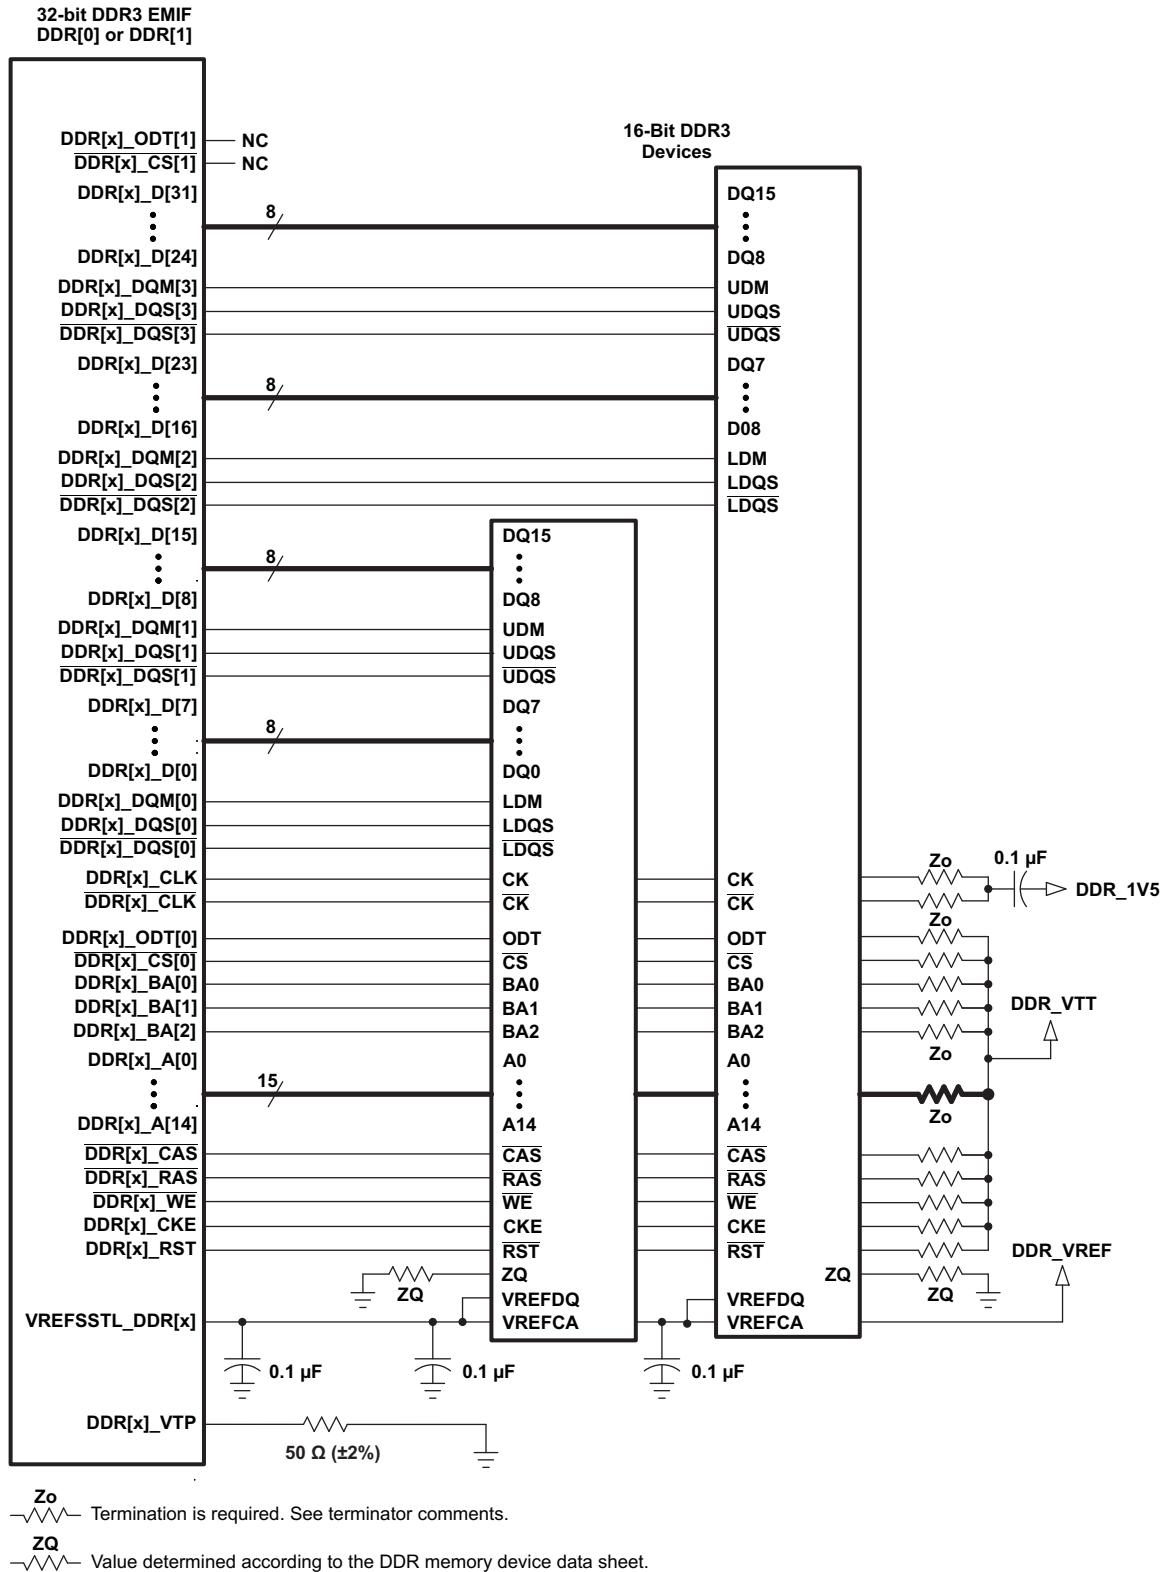
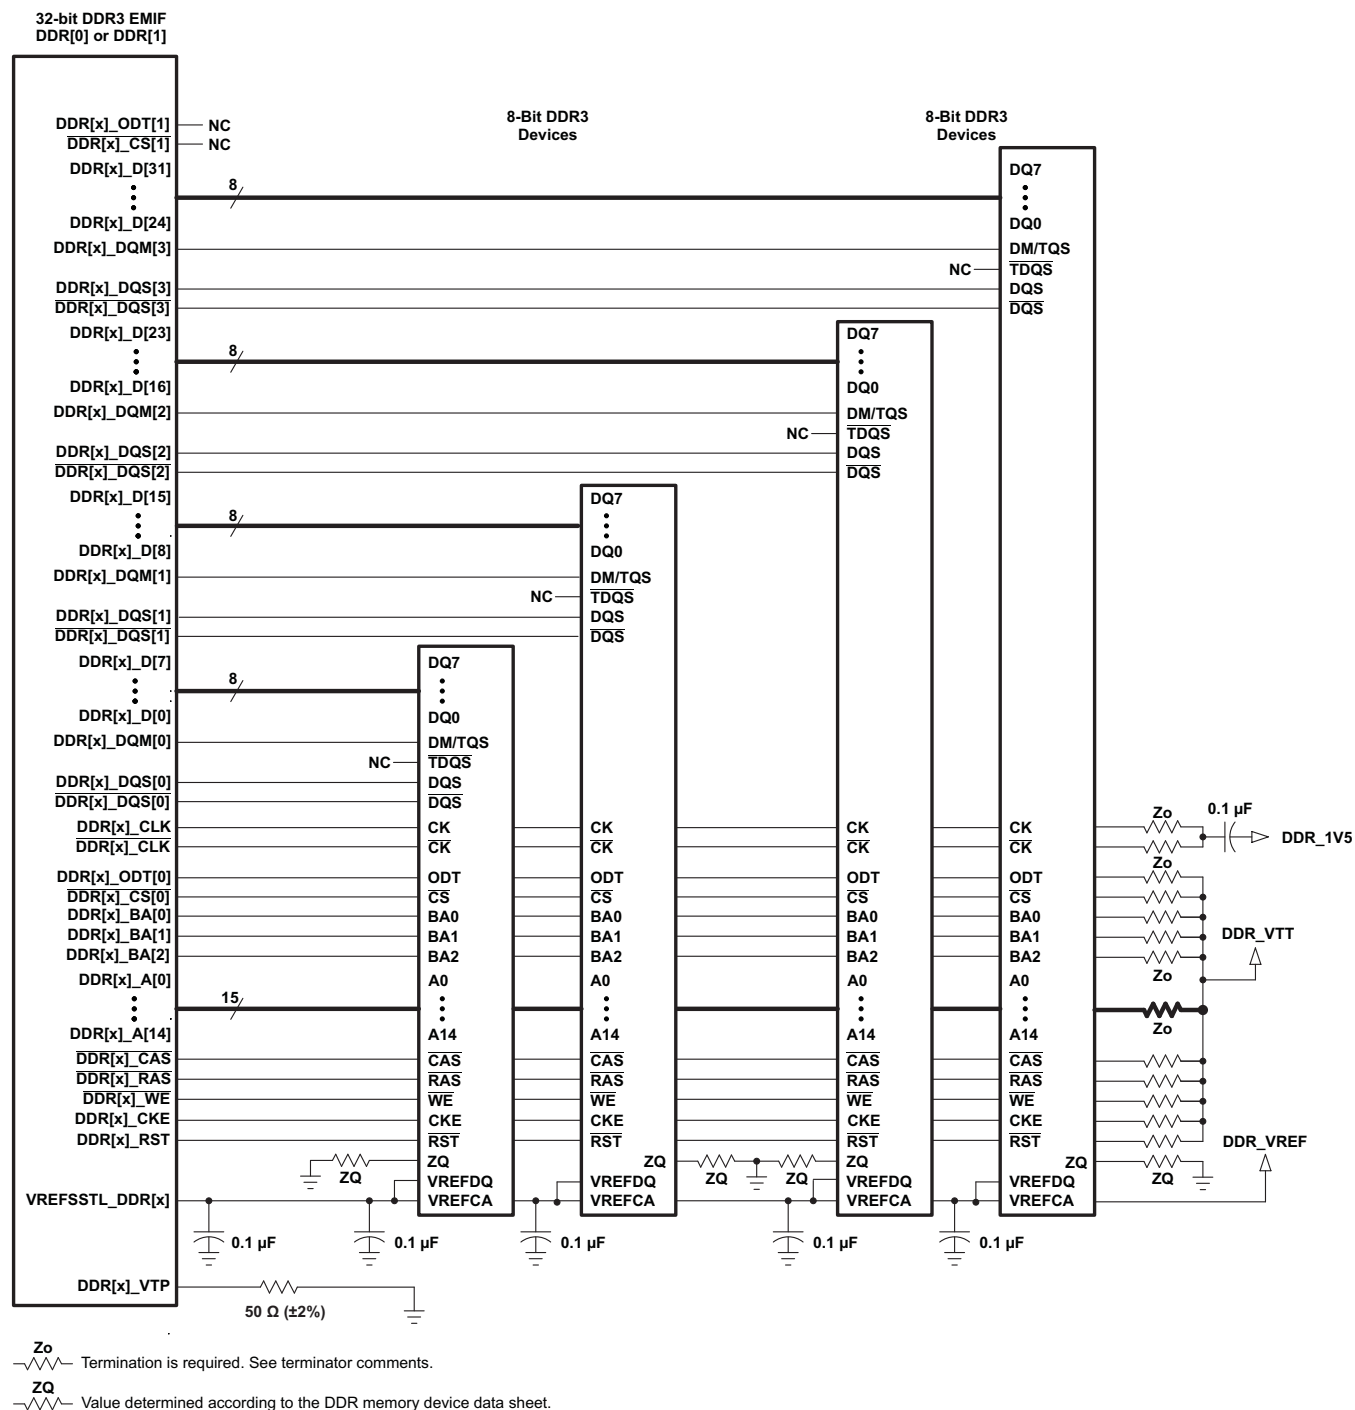

Figure 8-56. 32-Bit, One-Bank DDR3 Interface Schematic Using Two 16-Bit DDR3 Devices
Figure 8-57. 32-Bit, One-Bank DDR3 Interface Schematic Using Four 8-Bit DDR3 Devices
The DDR3 interface schematic varies, depending upon the width of the DDR3 devices used and the width of the bus used (16 or 32 bits). General connectivity is straightforward and very similar. 16-bit DDR devices look like two 8-bit devices. Figure 8-56 and Figure 8-57 show the schematic connections for 32-bit interfaces using x16 devices.
Note that the 16-bit wide interface schematic is practically identical to the 32-bit interface (see Figure 8-56 and Figure 8-57); only the high-word DDR memories are removed and the unused DQS inputs are tied off. The MPU DDR[x]_DQS[2] and DDR[x]_DQS[3] pins should be pulled to the DDR supply via 1-kΩ resistors. Similarly, the $\overline{\text{DDR}}[\text{x}]_{\text{DQS}}[2]$ and $\overline{\text{DDR}}[\text{x}]_{\text{DQS}}[3]$ pins should be pulled to ground via 1-kΩ resistors.
(1) DDR3 speed grade depends on desired clock rate. Data rate is 2x the clock rate. For DDR3-800, the clock rate is 400 MHz.
(2) DDR3 devices with speed grades up to DDR3-1600 are supported; however, max clock rate will still be limited to 400 MHz as stated in Table 8-61 *Switching Characteristics Over Recommended Operating Conditions for DDR3 Memory Controller*.
(3) For valid DDR3 device configurations and device counts, see Section 8.13.1.2.3, Figure 8-56, and Figure 8-57.